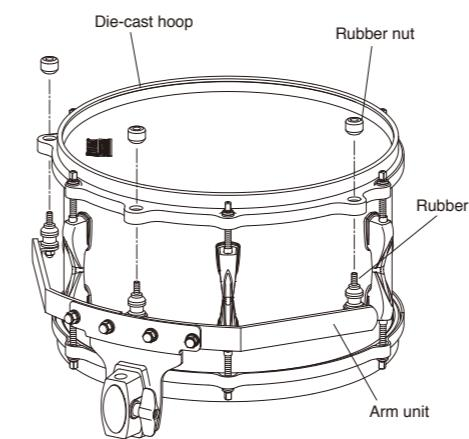

Fig. 2-1A
- * Connect the arm unit to the die-cast hoop by retightening the rubber bolts and nuts shown in Fig. 2-1A. Please make sure the "UP" mark on the rubber nuts is facing upward.